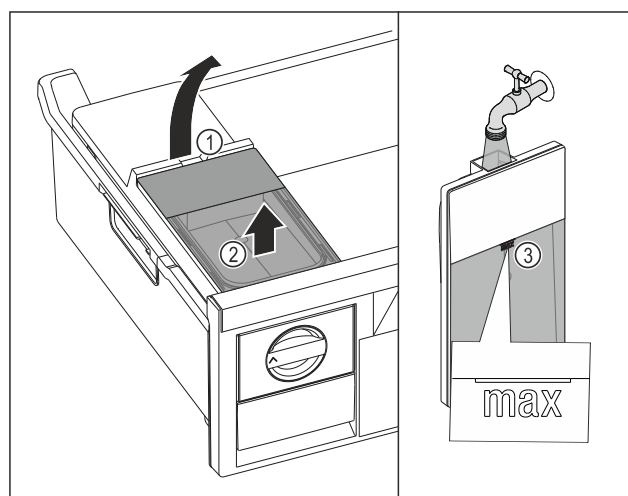

Fig. 156
- Lift the water tank at the recess Fig. 156 (1).
- Remove the water tank by lifting it upward. Fig. 156 (2)
- Fill the water tank with drinking water up to the mark Fig. 156 (3).